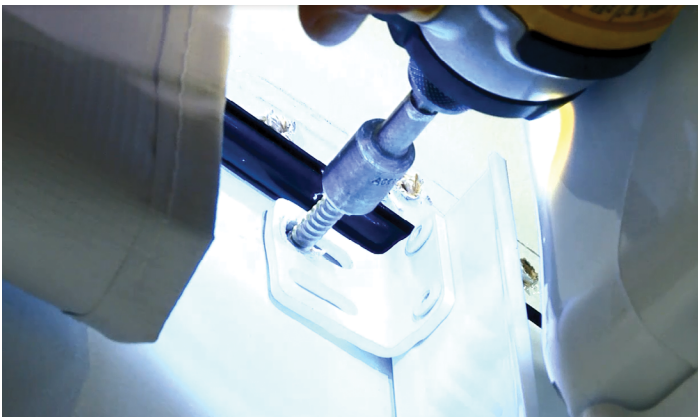

Fig.13
A. If using the original angle bracket on the new support arm assembly, secure the upper section of the drive mount arm to the unit with two of the provided #14 - 10 x 1 1/4" screws (**Fig.13**).